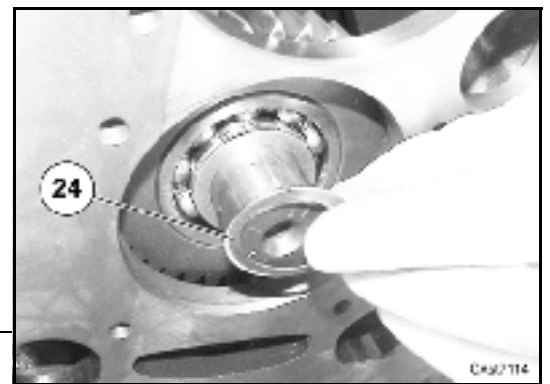

fig. 17
Vedi: fig. 17.
See: fig. 17.
14. Assemble cover (26), with relative bearing, to the gear box (25).
15. Assemble the shims (28).
Warning: select the total amount of shim (24) and (28), among the range of available shims (see table in C.6), to make sure there is the prescribed end float at the position 2 (see table in C.6) at the position 2 (in fig. 17) after the snap ring (29) assembly.